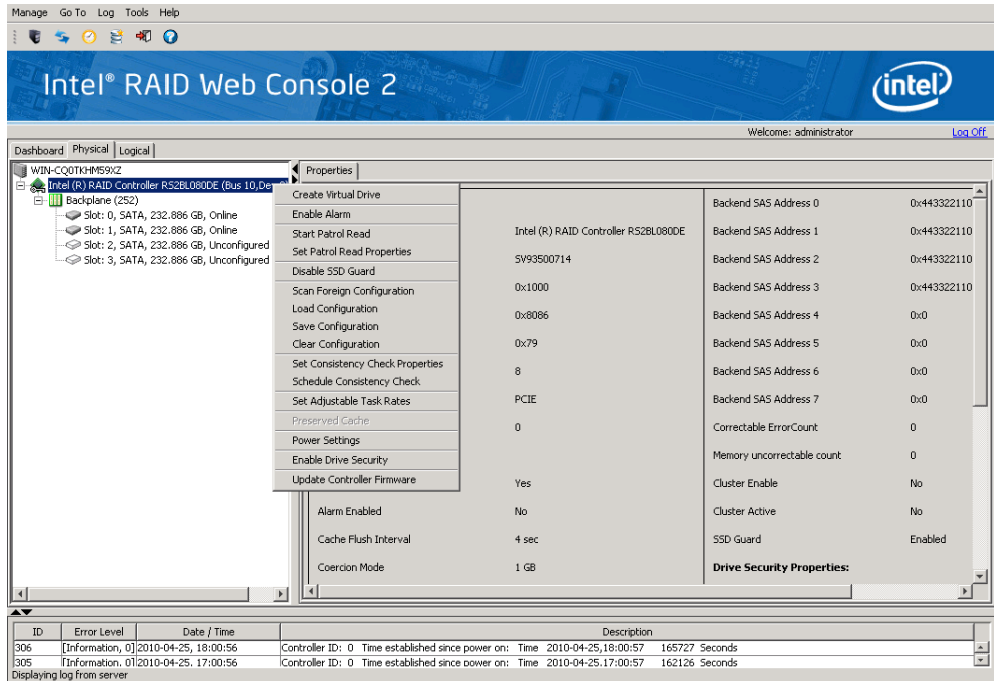

Figure 54. Virtual Drive Creation Menu
- Select the controller node and select Go To -> Controller -> Create Virtual Drive in the menu bar, as shown in Figure 54